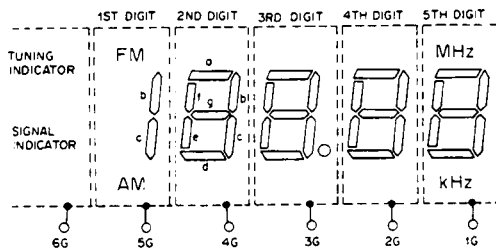
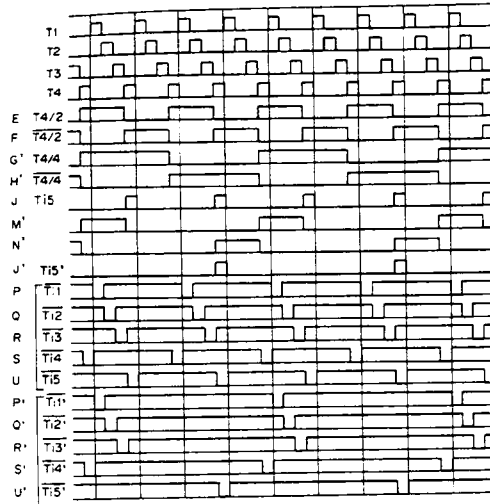
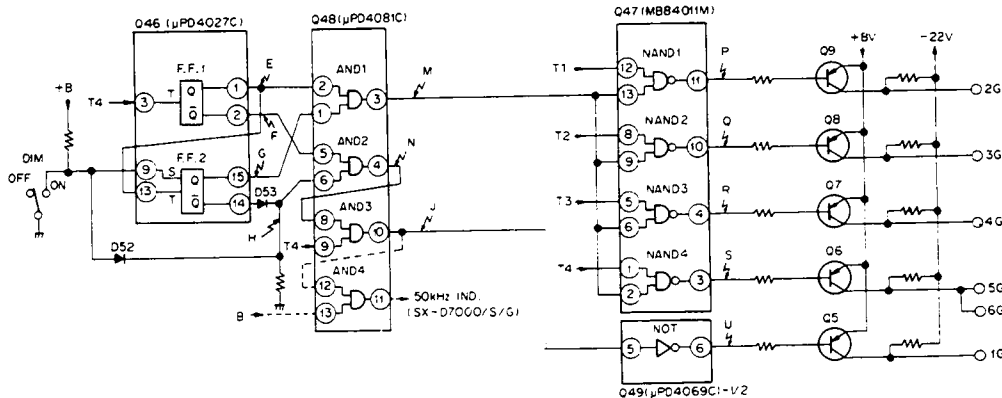
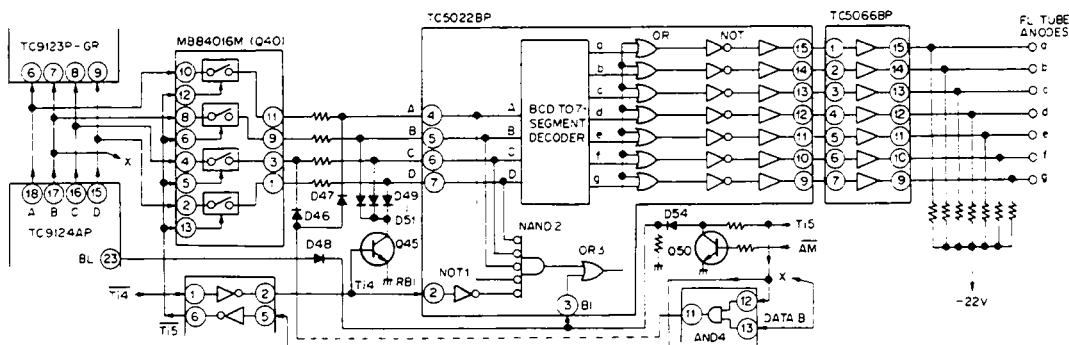

Fig. 4-13 FL Tube 5-digit Digital Display
Fig. 4-15 Time Division Pulse Time Chart
Fig. 4-14 Time-share Converter Logic Circuit
Fig. 4-16 Anodes of the FL Tube Drive Circuit
The SX-D7000 displays the selected station frequency on a 5-digit digital display using a fluorescent indicator tube (FL tube) as a source. As noted in Fig. 4-13, the FL tube display grids are divided into five independent units. Drive is by the dynamic time division method; a time cycle is divided into five divisions, and each digit pulsates in a recurring sequence. The flicker inherent in this method is not detectable by the human eye.
Fig. 4-14 illustrates the configuration of the timeshare converter logic. The terminals 1G thru 6G noted on the right side of the figure are connected to the FL tube grids (See Fig. 4-13). When no time division pulses (T1–T4) are present, the NAND gates 1 thru 4 (Q47) and the NOT gate (Q49) output P, O, R, S, and U respectively at a high level. Thus, Q5 thru Q9 are off; the FL tube grids are reverse-biased, and no light is emitted.
Fig. 4-15 shows the time division pulse time chart. When the dimmer switch is in the OFF position, the time division pulses U, S, R, Q, and P shown in Fig. 4-15 are applied to the bases of Q5 thru Q9. One by one they become active, providing dynamic time division drive to the 5-digit display. When the dimmer switch is in the ON position, time division pulses U', S', R', Q', and P' are applied to the bases of Q5 thru Q9. The frequency of occurrence of these pulses is only one half of those occurring when the dimmer switch is in the OFF position, bringing the intensity of illumination of the FL tube down proportionally.
Referring to Fig. 4-14, when the dimmer switch is in the OFF position and pulse T4 (Fig. 4-15-T4) is applied to the clock terminal (T) of flip-flop 1 (Q46), the output E is as illustrated in Fig. 4-15-E. (Flip-flop 1 is reversed on the rising edge of T4, and divides the frequency of the pulse in half.) When a +B signal applied to the set terminal (S) of flip-flop 2 brings it to a high level, output G from the Q terminal goes to high level independent of the input at the clock terminal (T). Output M from AND1 (Q48) is gated by input G at a high level, and is equal to input E. It is illustrated by Fig. 4-15-E. AND2 (Q48) will gate when D52 is conducting, thereby setting input H to a high level. Output N is equal to input F, and is illustrated by Fig. 4-15-F. Output J from AND3 (Q48) is the AND of input N (Fig. 4-15-F) and T4 and is illustrated by Fig. 4-15-J. The output P, Q, R, and S of NAND1 thru 4 (Q47) is the AND negation of input M (Fig. 4-15-E) and T1 thru T4, and is illustrated by Fig. 4-15-P, Q, R, S. Output U from NOT (Q49) is the negation of input J (Fig. 4-15-J) and is shown by Fig. 4-15-U.
In Fig. 4-14, output E of flip-flop 1 is the same regardless of whether the dimmer switch is in the ON or OFF position (Fig. 4-15-E). When the set terminal of flip-flop 2 is at a low level, the input pulse to the clock terminal is halved in frequency. The input to the clock terminal is illustrated in Fig. 4-15-E. Output G from the Q terminal becomes as is illustrated in Fig. 4-15-G'. Output M from AND1 (Q48) is the AND of input E and G and is noted by Fig. 4-15-M'. Output N from AND2 (Q48) is the AND of input F (Fig. 4-15-F)
and H (Fig. 4-15-H') and is illustrated by Fig. 4-15-N'. Output J from AND3 (Q48) is the AND of input N (Fig. 4-15-N') and T4, and becomes Fig. 4-15-J'. NAND1 thru 4 (Q47) outputs P, Q, R, and S. These are the negative AND of input M (Fig. 4-15-M') and T1 thru T4 and are illustrated by Fig. 4-15-P', Q', R', and S'. Output U of NOT (Q49) is the negation of input J (Fig. 4-15-J') and is shown by Fig. 4-15-U'.
The formulation of the numerical digits by the FL tube is accomplished by 7 segments, illustrated as a through g in Fig. 4-13. (The first digit uses only b and c.) TC9124AP transmits the time-shared reception frequency data T1 - T4 as BCD code from terminals A, B, C, and D. (See Table 2.) MB84016M (Q40) in Fig. 4-16 is an electronic switching device activated by the appearance of a $\overline{T}i5$ pulse, as represented by U and U' in Fig. 4-15. It serves to inhibit the transmission of frequency data to the 5th digit. The frequency data is converted from BCD code to decimal number 7-segment display data by TC5022BP. The 7-segment display data is passed through TC5066BP (non-inverting buffer IC) and applied to the anode segments (a thru g) of the FL tube. Each digit shares the segments a thru g connected in parallel,